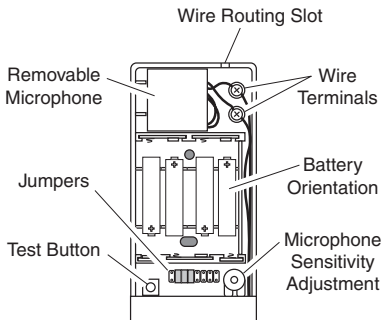

Figure 2
2. Install 4 type "AAA" batteries (not provided). Make sure batteries are oriented properly as shown in bottom of battery compartment (see Figure 2).